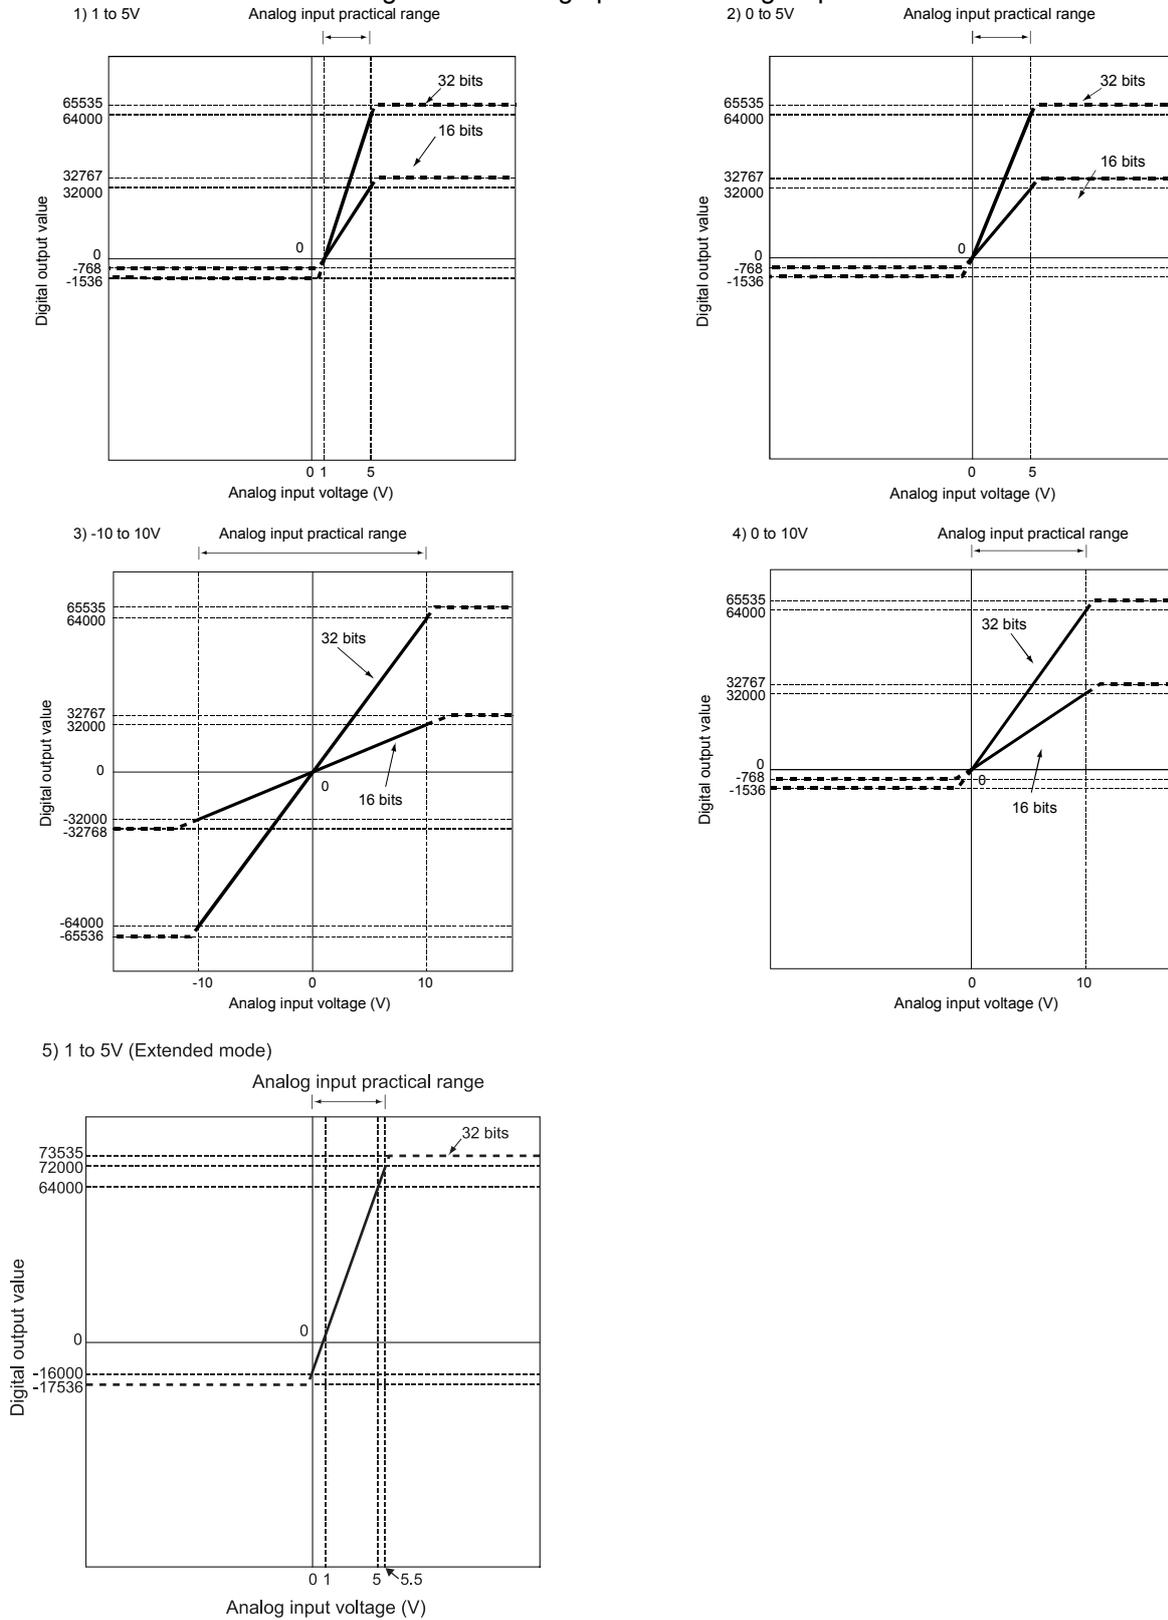

Fig. 3.1 Voltage input characteristic of Q64AD-GH
Fig. 3.1 shows a graph of the voltage input characteristic.
(1) Set within the analog input range and digital output range for each input range. If these ranges are exceeded, the resolution and accuracy may not fall within the performance specifications. (Avoid the use of dotted areas of Fig. 3.1.)
(2) Do not input an analog input voltage of -15V or less, or +15V or more. Doing so can cause the breakdown of the elements.
(3) Set the offset/gain values for the user setting range within a range in which the following conditions are satisfied.